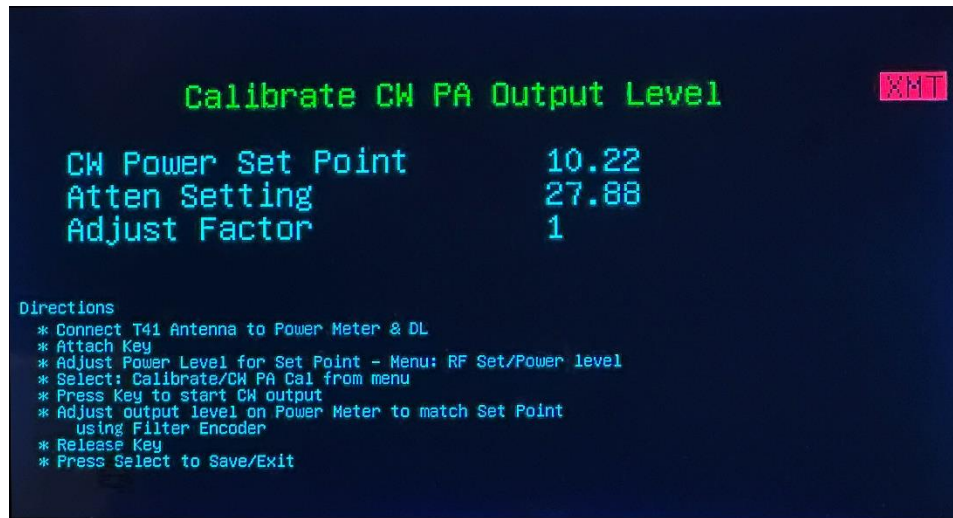

Figure 17 CW Power Calibration
- First connect the T41 output to a suitable Power Meter and then to a 50 ohm Dummy Load (DL).
- Figure 17 shows the CW Power Calibration screen.